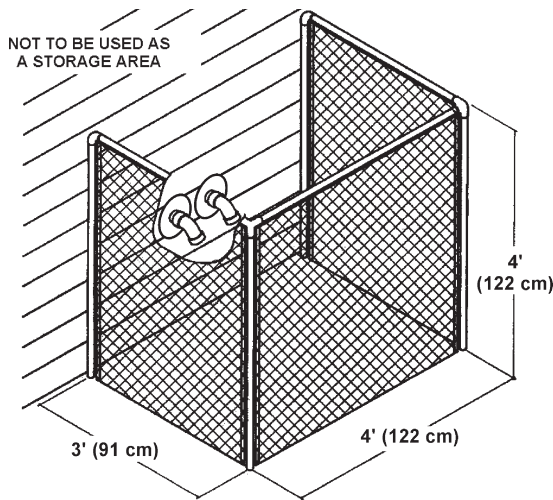

FIGURE 8.
- The location selection must provide clearances for servicing and proper operation of the water heater, see Figure 8.
When the water heater outlet terminal is low enough to be touched accidentally, or is accessible to small children, a wire mesh chain link fence (as shown in Figure 8) may be used. Care should be taken to maintain adequate ventilation around the outlet terminal. If a chain link fence is installed, it must not be used as a storage area for items that may block proper ventilation.